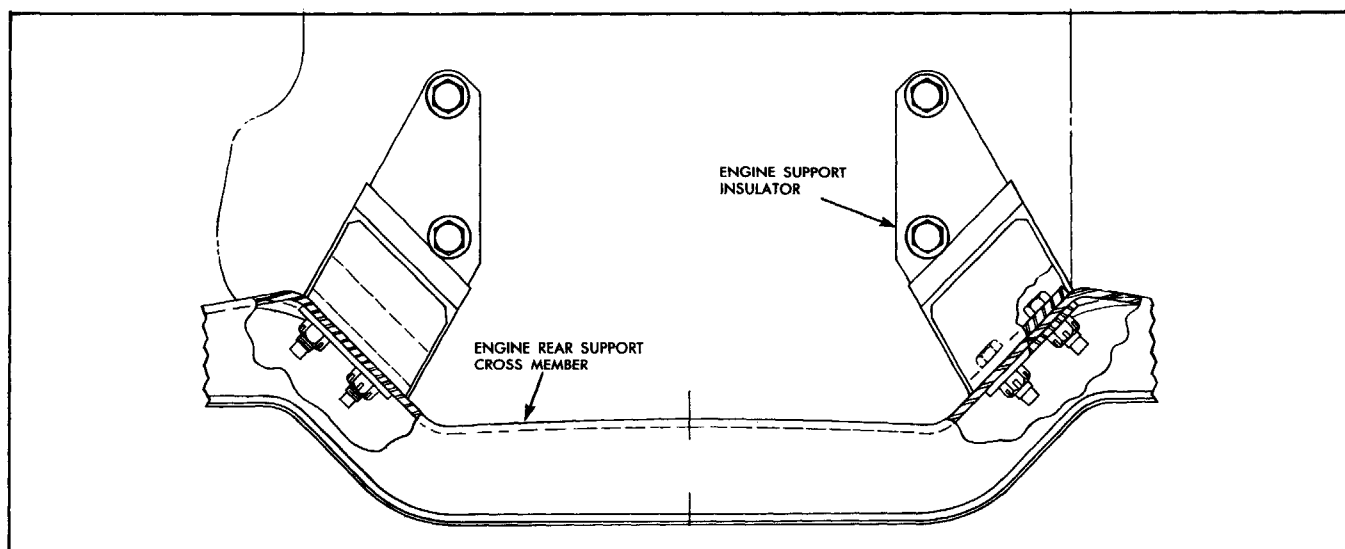

Fig. 6-22 Engine Rear Insulator Mounting
5. Lower engine so rear insulators are resting on frame cross member and insert insulator to frame bolts from top. Install self locking nuts (Fig. 6-22) and tighten to 35 lb. ft. torque.